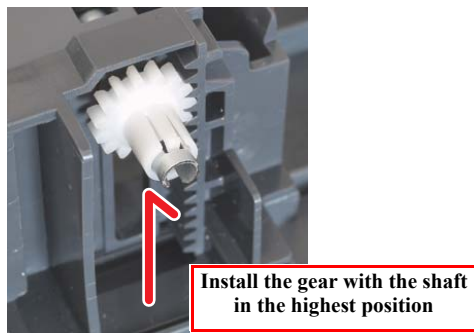

Figure 4-53. Installing the CD-R Shaft
- When installing the CD-R Shaft, orient it so that the side where the distance from the shaft end to the hole for the hook of the gear is larger is positioned left (on the spring side), and pass it through the Stacker. (Fig. 4-53)